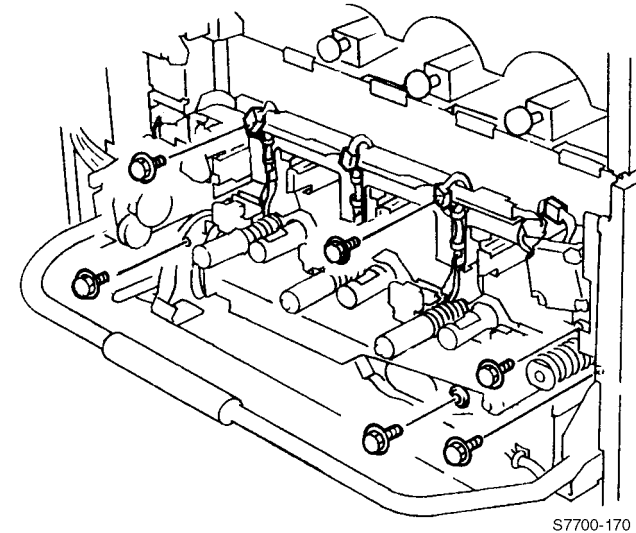

Figure 3 Removing Plate Assembly
11. Remove Plate Assembly (Figure 3).
- a. Remove Screws (6).